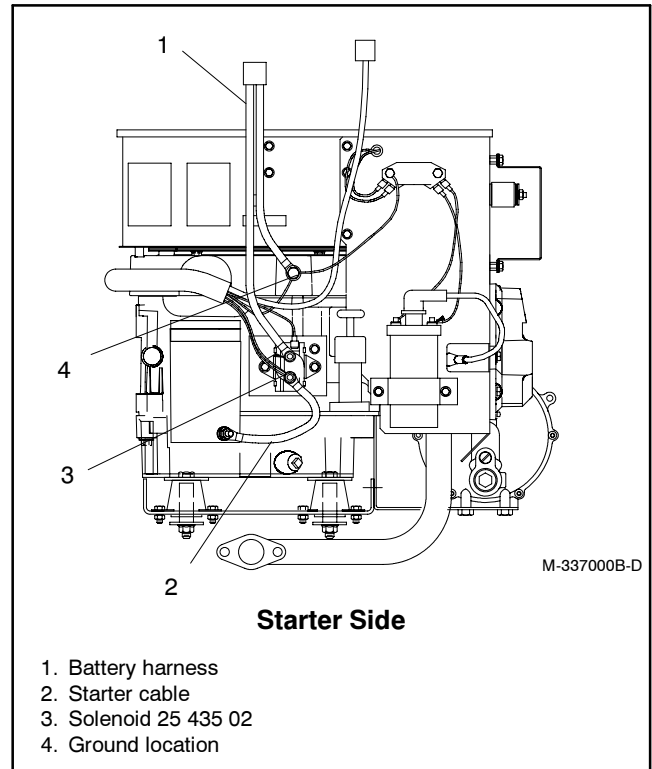

Figure 2 Existing Starter Solenoid
4. Locate the starter solenoid (between the starter motor and oil dipstick tube) on the side of the genset. See Figure 2.